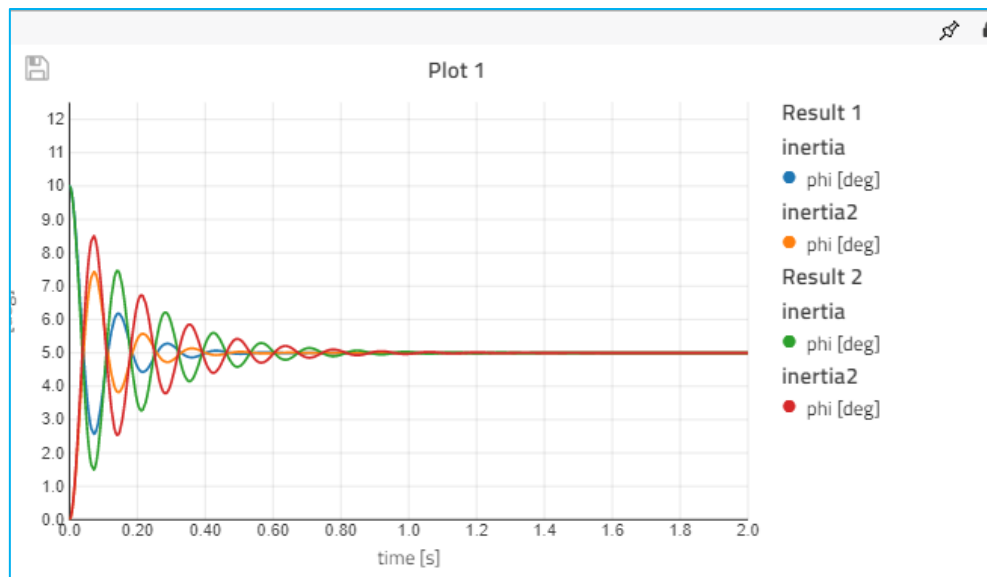

Figure 16 Re-simulate with parameter change
14. To study the impact of a certain parameter on the system behavior, simply change a parameter in the **Properties** tab of the *Details panel* and hit the simulation button again; the plot will be updated with the new results. In **Figure 16**, the damping coefficient  $d$  for **springDamper** has been changed to 0.5 instead.
**Note:** Individual variables from individual simulations can be deleted from a plot by clicking on the variable in the plot legend. For example, to remove *inertia\_two.phi* from *Result 2* from the plot shown in **Figure 16**, hover the mouse cursor over the ● icon next to the variable in the plot legend. This will change the icon to ✏; click on it and select **Delete** to remove the variable from the plot. It is also possible to customize trajectory colors this way.